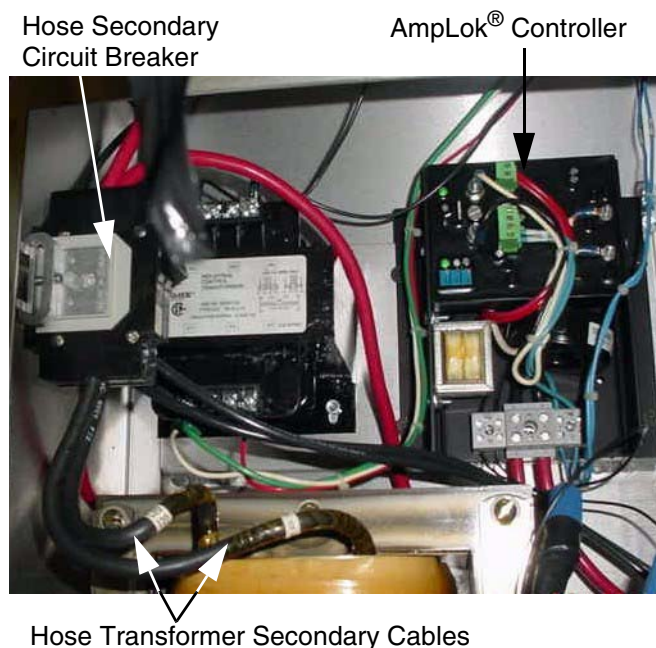

FIG. 1: H-20/35 Pro Before Conversion
2. Remove AmpLok® controller, see FIG. 1.